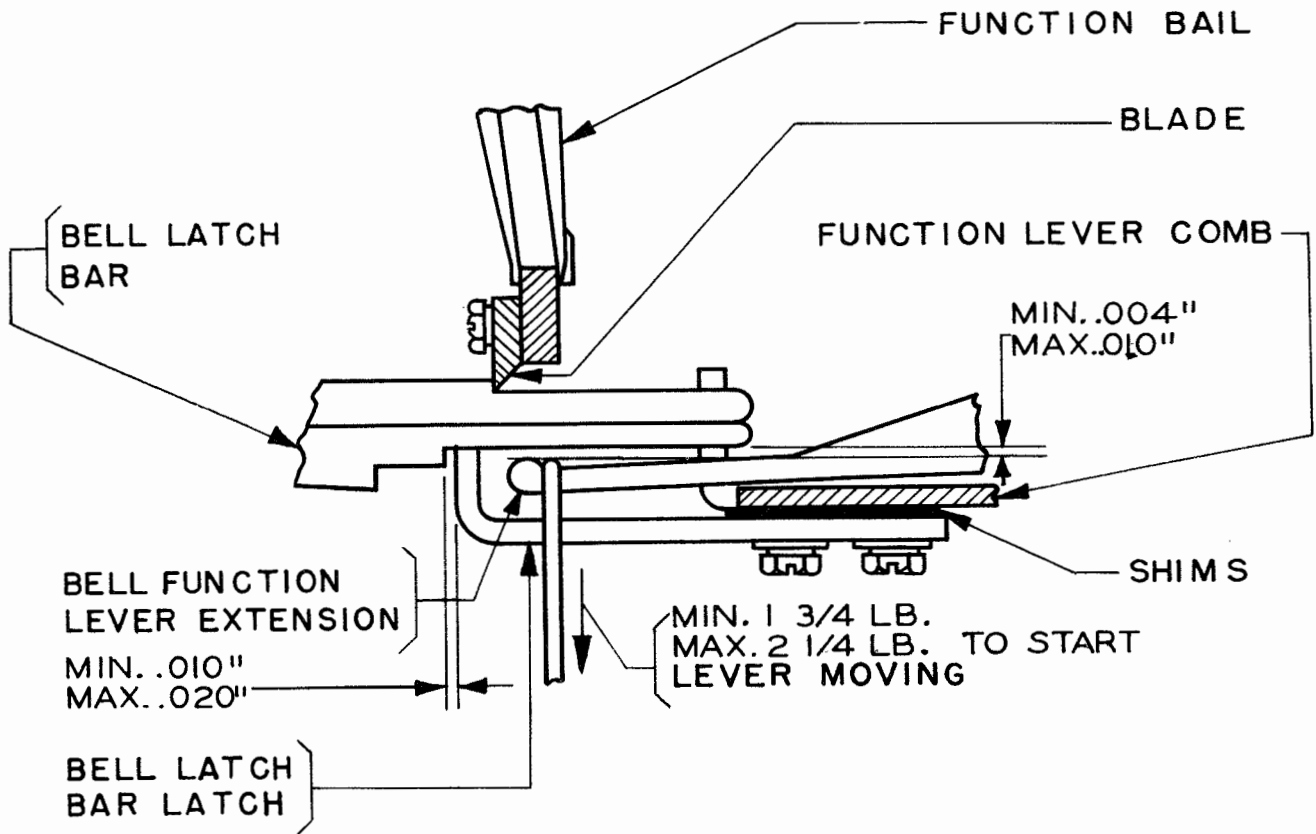

Figure 43
extension by minimum 0.004 inch, maximum 0.010 inch when (1) the platen is in LTRS position, (2) the letter S combination is set up, (3) the mainshaft is rotated until the printing bail is in its extreme forward position, and (4) the front shoulder on bell latchbar is fully latched on latch. See Figure 43.
2.94 Signal-bell Latchbar Latch: The signal-bell latchbar latch should clear the front shoulder on the bell latchbar by minimum 0.010 inch, maximum 0.020 inch when the mainshaft has been rotated until the function bail is in its extreme rear position and the bell-reset-bar shoulder is fully engaged with the function bail blade. See Figure 43.
maximum 2-1/4 pounds when any character is selected and the mainshaft is rotated until the bell-function lever rests against the vanes but is not selected. See Figure 43.
fully latched on its latch. (See Figure 43 for similar adjustment of the signal-bell latchbar.)